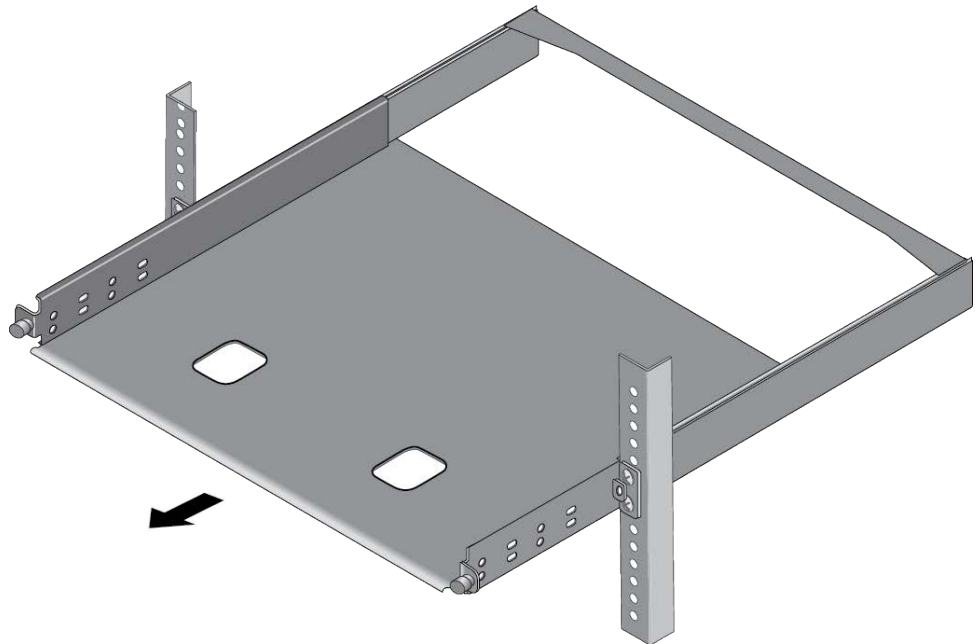

Figure 45. Sliding Out the Tray from the AT-RKMT-J15
3. Slide out the bracket tray. Refer to Figure 45.